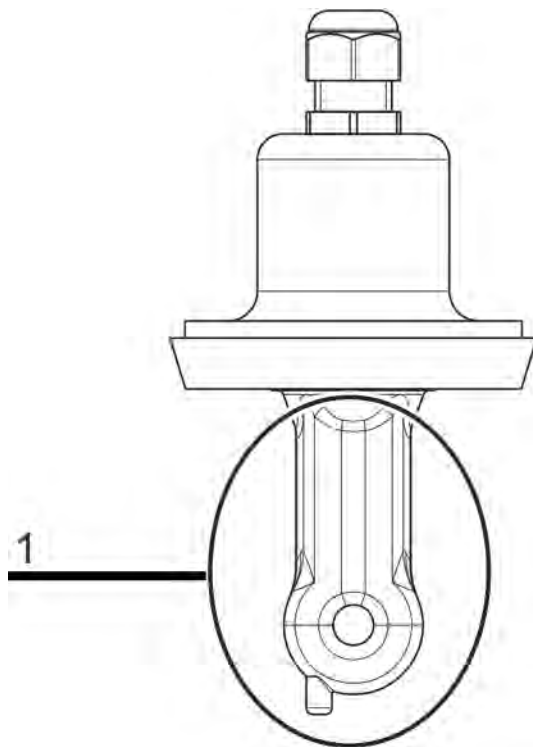

Fig. 74: Sensor body of a Ci-sensor (1)
3. Place the sensor so that the sensor body hangs freely in the air. (See Fig. 74 .)